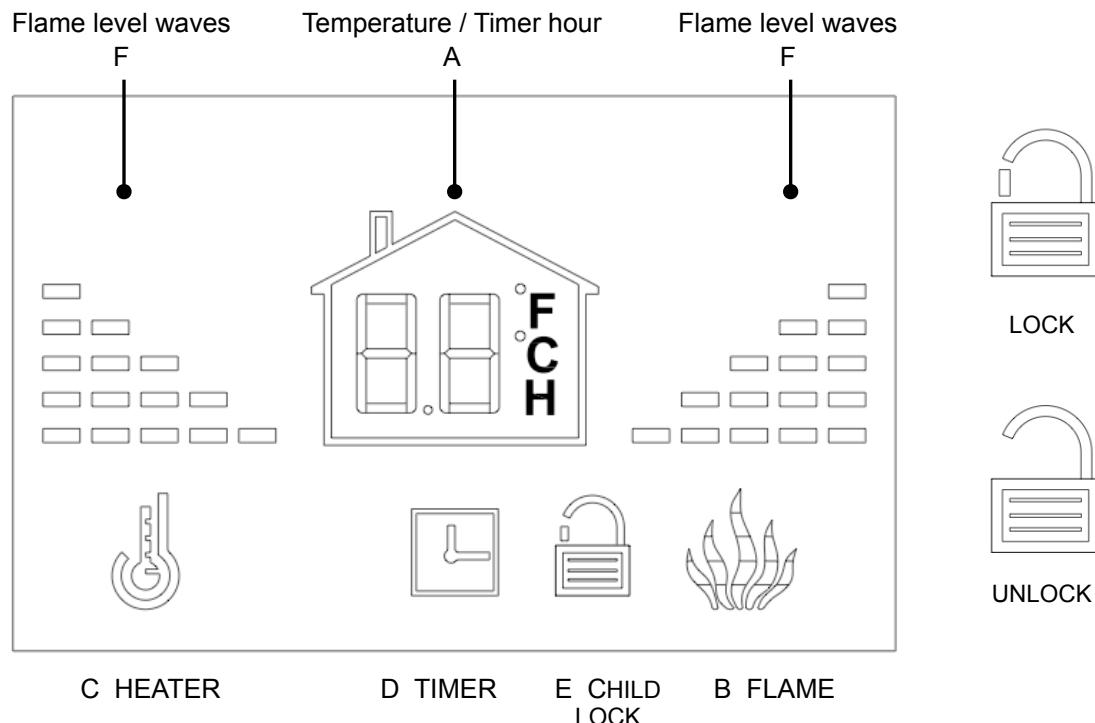

Figure 4
- ◆ The default setting of the flame is highest flame setting. Press UP(G) or DOWN(F) button, you can adjust the flame brightness, there are 5 levels of the brightness.
- ◆ When operating this button, the Display Screen FLAME icon will be twinkling (See Figure 4.B),
- ◆ When you are adjusting the flame brightness with UP(G) and DOWN(F) button, the Display Screen will show corresponding brightness level base on wave number (See Figure 4.F).
- ◆ There are total 7 heating levels from HIGH to LOW (95F/35C to 65F/18C), with press UP(G) or DOWN(F) button, the heating temperature can be set in 5F/3C interval.
- ◆ Press and hold the HEATER button 6 seconds, user can switch between Fahrenheit (F) and Celsius(C) in the Display Screen.
- ◆ When operating this button, the Display Screen HEATER icon will be twinkling. (See Figure 4.C).
- ◆ Press UP(G) or DOWN(F) button, you can set the turn off time from 0.5H to 8H with 0.5H interval.
- ◆ When operating this button, Display Screen TIMER icon will be twinkling. (See Figure 4.D)
- ◆ Press and hold the CHILD LOCK button 6 seconds, the locking features can be activated, The CHILD LOCK icon in Display Screen displays locked (See Figure 4.E). All fireplace features are disabled. All the Control Panel buttons and Remote Control are deactivated.
Display Screen: (Locate in Figure 4)
Flame Control (Figure 4. B):
- ◆ The default setting of the flame is highest flame setting, Press UP(G) or DOWN(F) button, you can adjust the flame brightness, there are 5 levels of the brightness.
- ◆ When you are adjusting the flame brightness with UP(G) and DOWN(F) button, the Display Screen will show corresponding brightness level base on wave number (See Figure 4.F)
Heater Control (Figure 4.C):
- ◆ When adjusting the flame brightness with UP and DOWN button, the display screen will display the heater setting in using accordingly with either Fahrenheit (F) or Celsius degrees (C). Without further operations, the display screen display room temperature after around 6 seconds. (See Figure 4.A)
- ◆ When operating this button, display screen TIMER icon twinkle (See Figure 4.D).
- ◆ Press UP and DOWN button to adjust the timer form 0.5 to 8H, 0.5 hour each press. The display screen will display the timer setting in using accordingly (See Figure 4.A).
- ◆ Press the CHILD LOCK once to activate the child-lock function, once this function is activated, all the other buttons be locked, the display screen CHILD LOCK icon display locked (See Figure 4.E).
- ◆ Press the CHILD LOCK button for 6 seconds again to unlock the control system, and the other buttons can be operated again, the display screen CHILD LOCK icon display unlock (See Figure 4.G).